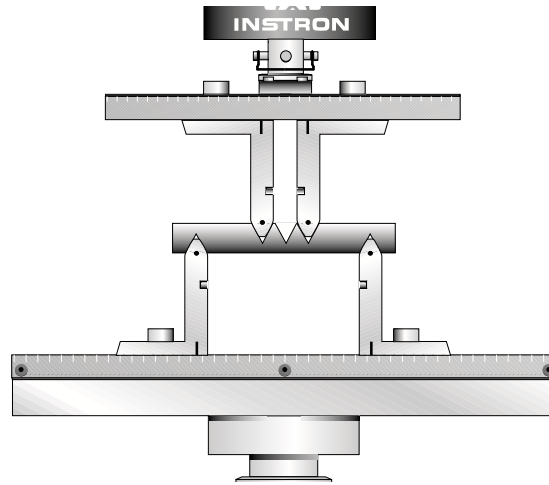

Figure 8. Aligning the anvils
4. Lower the upper anvil assembly until the anvils (or anvil) fit snugly in the alignment plate. Figure 8 on page 22 illustrates a snug fit of the upper anvils for 4-point testing.